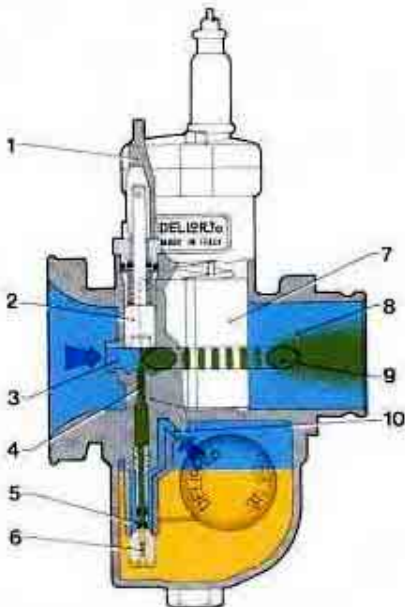

fig. 15
It is called independent because the starting device operates with its own circuit including a starter jet, emulsion tube and a starter valve (**fig. 15**).
**Figure 15** shows the mixture strength delivered through the emulsion tube depends on the size of the starter jet (6) and on the size of the air duct (10).